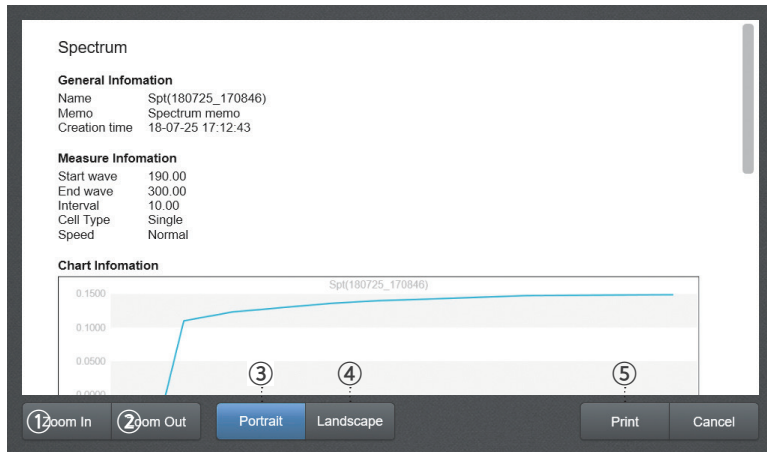

Fig. 5.13
8. [Fig. 5.13] You can zoom in or out on the printing details using the ① **Zoom In** or ② **Zoom Out** buttons.
9. [Fig. 5.13] You can check or print in landscape or portrait mode using the ③ **Portrait** and ④ **Landscape** buttons.
10. [Fig. 5.13] Check the details to print and press the ⑤ **Print** button to open the print settings screen.